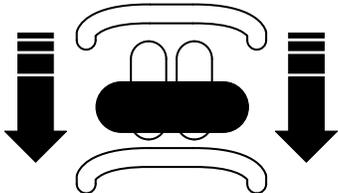

Figure 15
- To move rearward, move the traction control rearward (Figure 15).